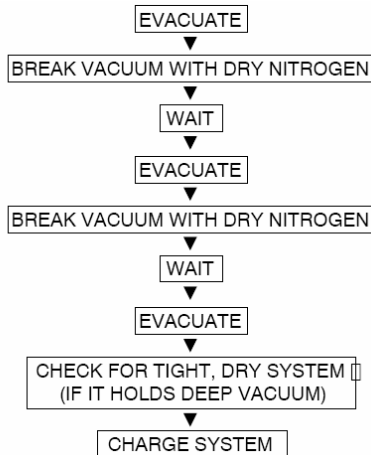

Fig.25—Triple Evacuation Method
The triple evacuation method should only be used when vacuum pump is only capable of pumping down to 28 inch of mercury vacuum, and system does not contain any liquid water. Refer to Fig. 25 and proceed as follows:
5. Repeat this procedure as indicated by Fig. 25. System will then be free of any contaminants and water vapor.